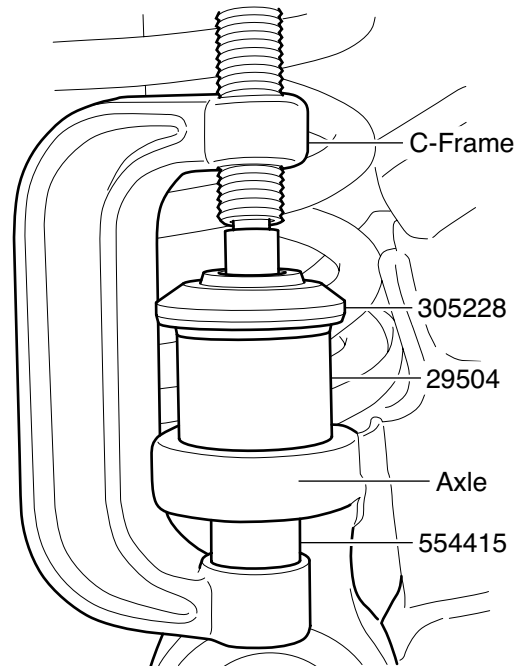

Figure 1. Ball Joint Removal
3. Position 554415 and the C-Frame as shown in Figure 1 over the stem of the ball joint.